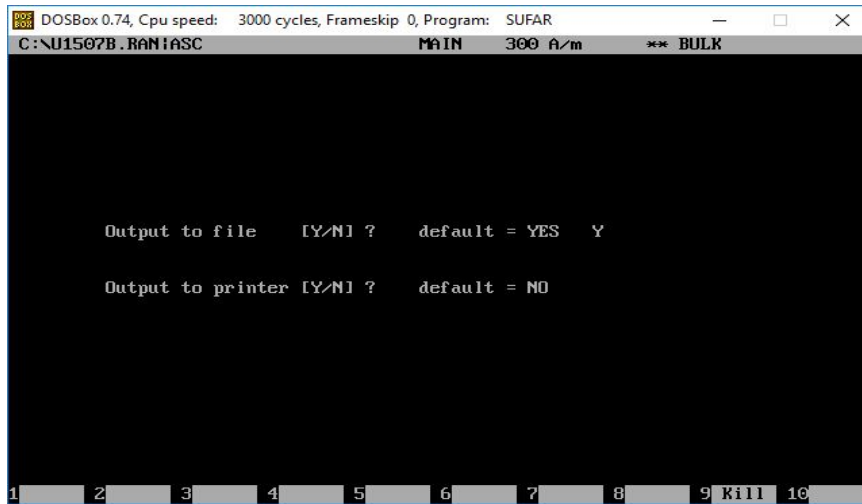

Figure 22. Sufar display asking user to choose to output data to a file and if they wish to print.
14. Sufar will now display: Output to file (Y/N)? (Figure 22).
15. User is now prompted: Output to printer (Y/N)? (Figure 22). Pressing return will trigger the default response of N (no).